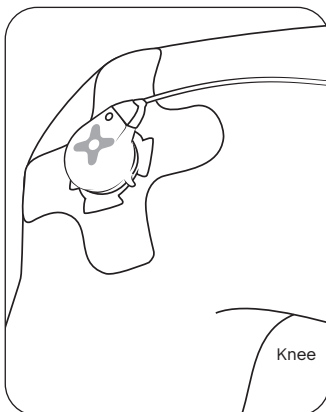

figure 10B: Adhere Patch to Site
- C. Turn the Patch over and adhere the Patch to the desired treatment location (Figure 10B).